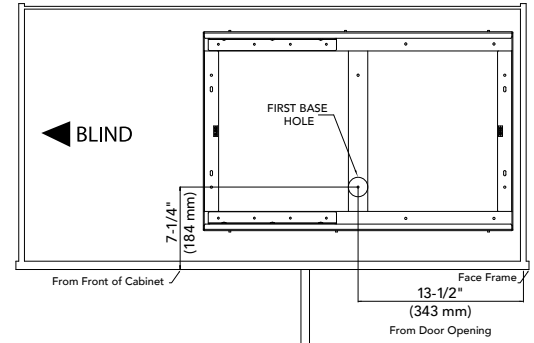

Fig. 2
Measure to find your first base hole and mark location (See Fig. 1). Align the Base Unit (A) over the marked base hole. With the Base Unit (A) square to the cabinet opening; pre-drill and mount to the cabinet floor with (10) 5/32" x 18 mm Wood Screws (I) (See Fig. 2).